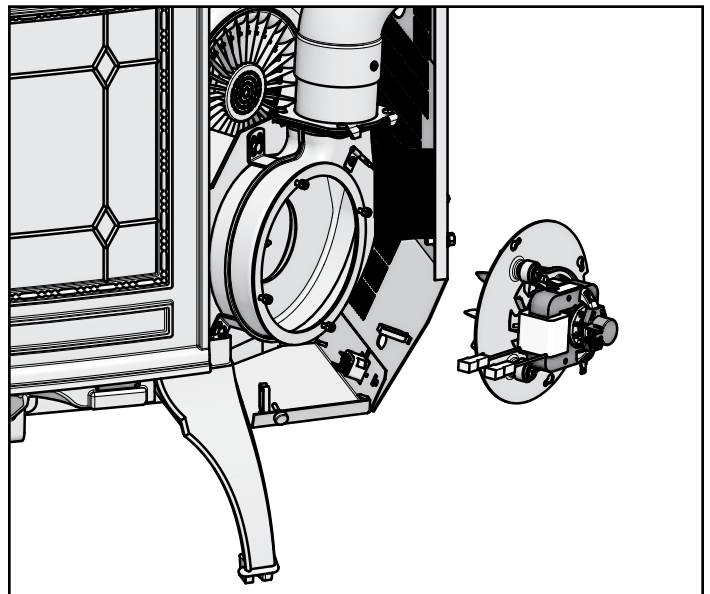

Figure 25.2
2. Remove the right side panel by loosening the 2 screws using a Phillips head screw driver or wrench (**Figure 25.2**).